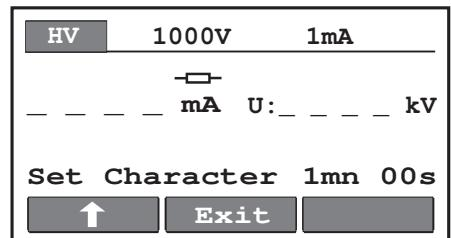

Fig.5. Menu for selection of test current character
■ Character of the displayed test current (fig. 5)